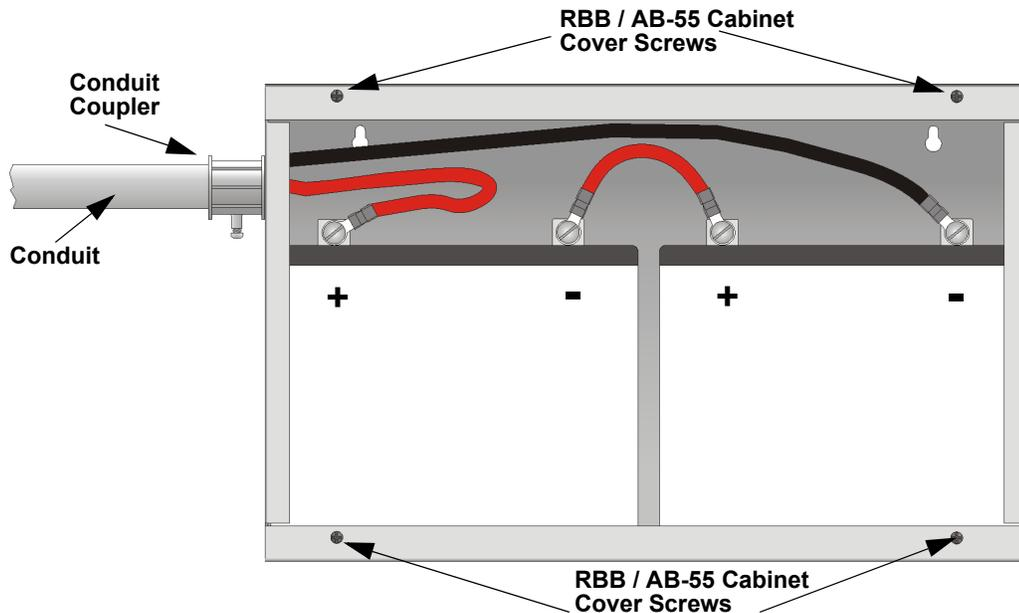

Figure 4.7 Battery Connections in the RBB or AB-55 Cabinet
- Run extended battery cable from control panel cabinet through conduit to RBB or AB-55 cabinet. See Figure 4.7.
NOTE: Figure 4.7 is an example of how the wire connections can be routed. However, any other cabinet knock-outs (on either the main control panel or the RBB/AB-55 cabinet), that are not previously being used may be utilized to connect conduit between the two cabinets.
- Connect battery leads to the backup battery terminals. See Figure 4.7.
- Insert the RBB or AB-55 cover screws into the cover mounting holes. See Figure 4.7.